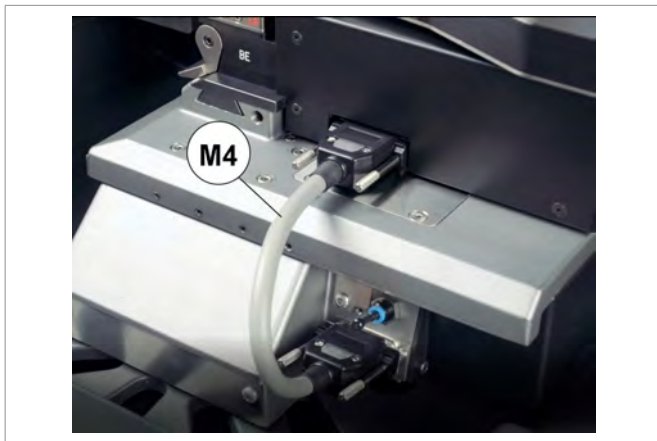

Fig. 28
- 3) Connect the clamp to the machine with the serial cable (M4) (Fig. 28).